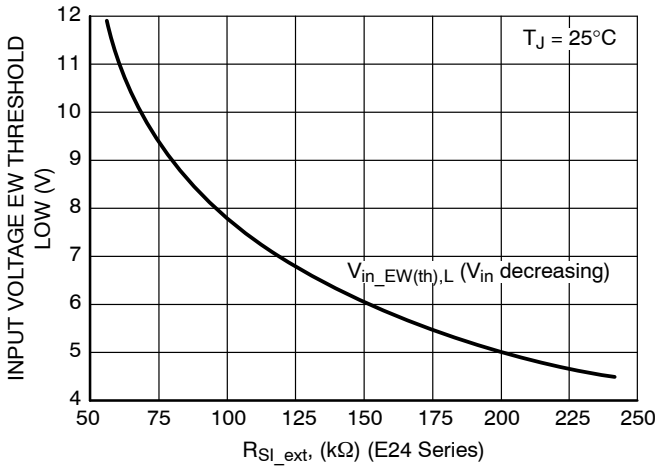
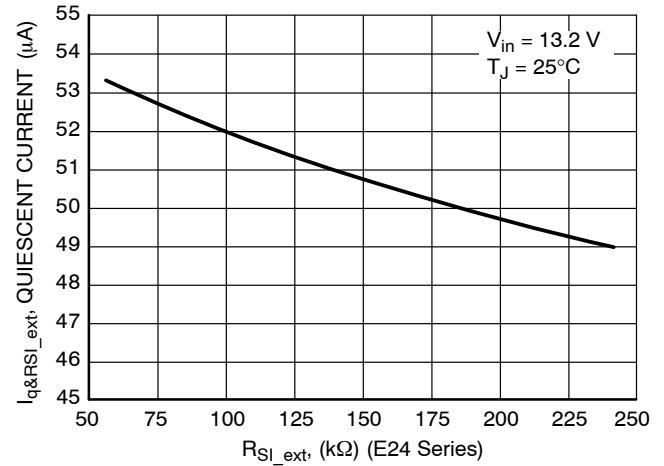

Figure 26. Input Voltage EW Threshold Low vs. R_{Sl_ext} (Calculated Using E24 Series)
Figure 27. Quiescent Current vs. R_{Sl_ext} (Including I_{RSl_ext} , Calculated Using E24 Series)
13. I_q for Preset EW Threshold Options is measured when R_{SI_ext} is not used. For typical values of I_q vs R_{SI_ext} see Figure 27.
Practically only preset options above 4.5 V can be used without R_{SI_ext} due to minimum operating input voltage value limitation. For other preset options the trip point has to be adjusted externally using R_{SI_ext} resistor connected between input monitor SI and GND (see Figure 1). For other preset options R_{SI_ext} has to be used to achieve V_{in_EW(th)} > 5.5 V (minimum operating input voltage value). The value for R_{SI_ext} is recommended to be selected in range from 50 kΩ to 250 kΩ and the trip point can be shifted according to Figure 26. In case of R_{SI_ext} values higher than 200 kΩ two resistors in series could be used in order to eliminate leakage current of the resistor and hence ensure precision of its resistance value. The higher is R_{SI_ext} the lower is overall Quiescent Current of the application (see Figure 27). General formulas for calculation of V_{in_EW(th)Low} or R_{SI_ext}
The Sense Output is from an open drain driver with an internal 30 kΩ pull up resistor to V_{out} . Figure 26 shows the SO Monitor timing waveforms as a result of the circuit depicted in Figure 1. If the input voltage decreases the output voltage decreases as well. If the SI input low threshold voltage is crossed it causes the voltage on the SO output goes low sending a warning signal to the microprocessor that a reset signal may occur in a short period of time. TWARNING is the time the microprocessor has to complete the function it is currently working on and get ready for the reset shutdown signal.